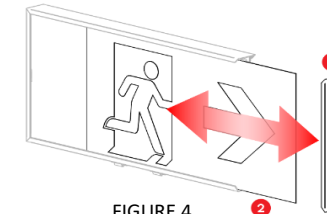

FIGURE 4
- Ensure correct decal is installed into product, if not, slide out default decal and replace with correct version (see Figure 4)